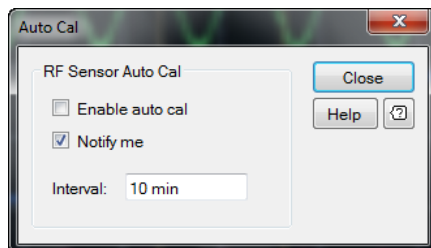

Figure 2-141 Auto Cal dialog
- 2 The Auto Cal dialog is displayed as shown in Figure 2-141.